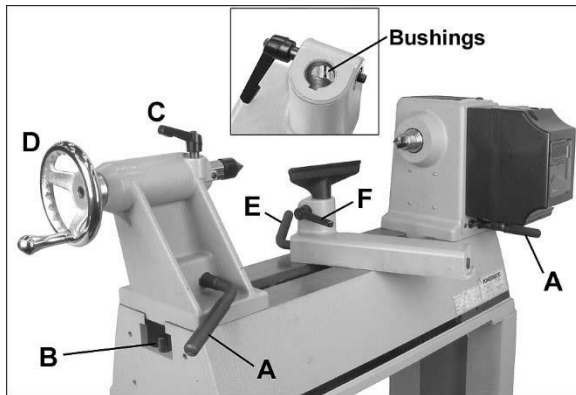

Figure 8-1: headstock, tailstock, tool support
To slide headstock or tailstock, loosen locking handle (A, Figure 8-1) until head/tailstock can slide freely. When head/tailstock is positioned, swing locking handle until it tightens securely.
To remove headstock, tailstock or tool support base from bed, unscrew and remove stud at either end (B, Figure 8-1). NOTE: After re-mounting these items on the Lathe, always insert stud.
For most spindle turning operations, the headstock will be positioned at left end of bed, and only the tailstock moved to accommodate the workpiece. Loosen locking handle (C, Figure 8-1) to advance or retract tailstock quill by rotating handwheel (D). Retighten handle (C) before operating lathe. *Lock tailstock in position before operating.*
Loosen locking handle (E, Figure 8-1) to slide support base forward or back, and angle it to the bed. Tighten locking handle securely before operating Lathe.
Loosen small handle (F, Figure 8-1). Make sure clamp bushings (inset, Figure 8-1) are spread apart sufficiently to accept tool support post.
Locking handles, such as C and F, Figure 8-1, can be rotated to more convenient position. Lift up on handle, rotate it on pin, then release it, making sure it seats on pin.